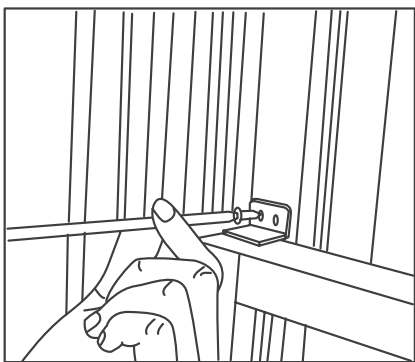

Fig.11
- 6.** To secure lower sash in place, attach right angle sash lock with 3/4" (19 mm) screw as shown (Fig.11).